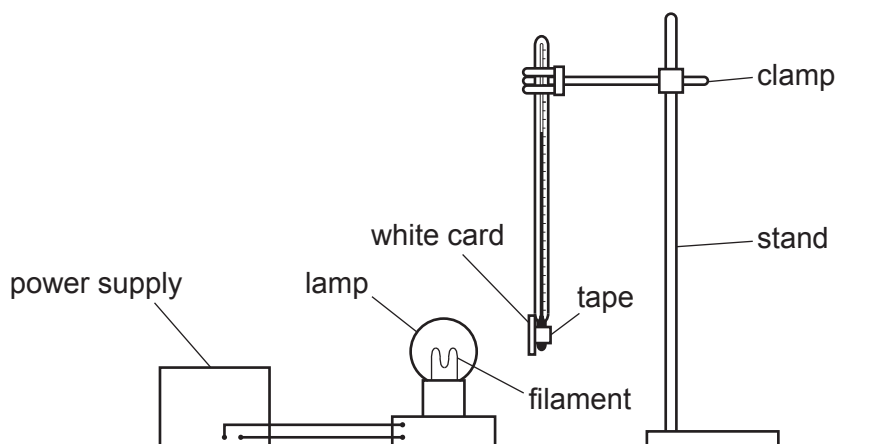

Fig. 2.1
- 1 The clamp, boss and stand must be set up for candidates with the thermometer clamped securely as shown in Fig. 2.1. The clamp must not obscure the graduations on the thermometer. The bulb of the thermometer must be level with the filament of the lamp. The white card must face the lamp.
Restore the apparatus to the state shown in Fig. 2.1, with the white card attached to the thermometer bulb, and switch off the lamp.